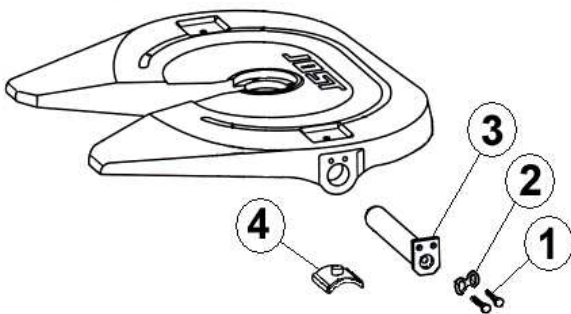

FIGURE 1
1. Remove the 1/2-13 hex head cap screws (figure 1 item 1) and locking tabs (item 2).
2. Remove the bracket pins (item 3).